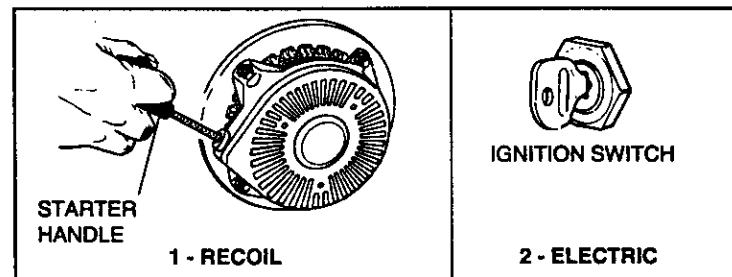

Figure 2
① **RECOIL STARTER** (see Figures 2 and 3):
C. Grasp starter handle (see Figure 2) and pull rope out, slowly, until it pulls slightly harder. Let rope rewind slowly. Then pull rope with a rapid full arm stroke. Let rope rewind SLOWLY. Do not let starter handle snap back against starter.
② **ELECTRIC STARTER** (see Figures 2 and 3):